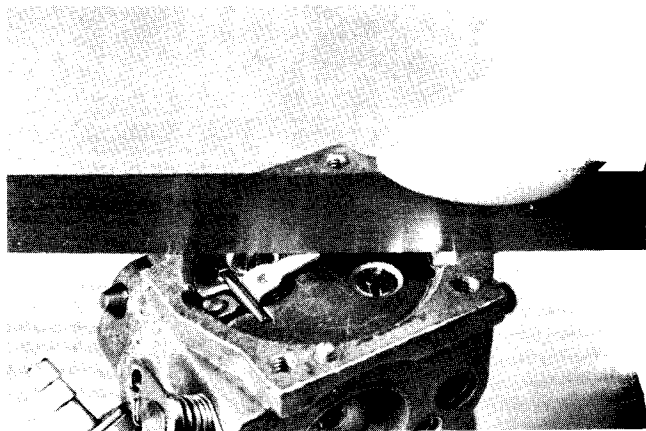

Fig. 59 — Checking Inlet Needle Lever Height
4. Secure plate and lever assembly with flat head screws and check height of lever, Fig. 59. If lever is not level with gasket surface of carburetor housing, carefully bend to correct.